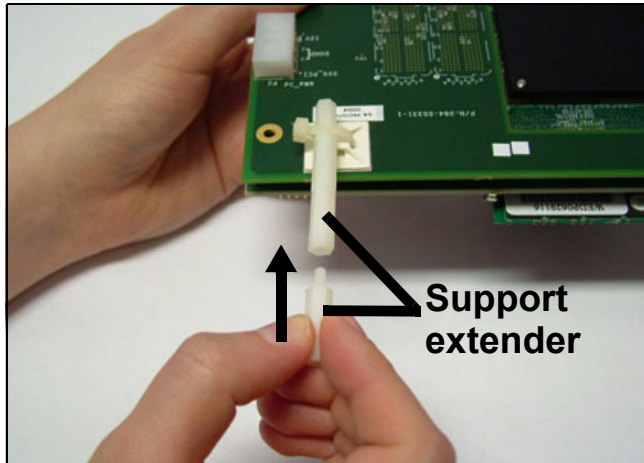

Figure 2-23. Fastening the support extender
- c) Fasten the support extender to the far end of the PCI\_PCIe adaptor, as shown in Figure 2-23 on page 2-16. This provides mechanical support for the PCIe agent board. The longer support extender should be used if the host board will also be fastened on the PIB (see Figure 2-27 on page 2-18) at the same time as being a PCIe host.